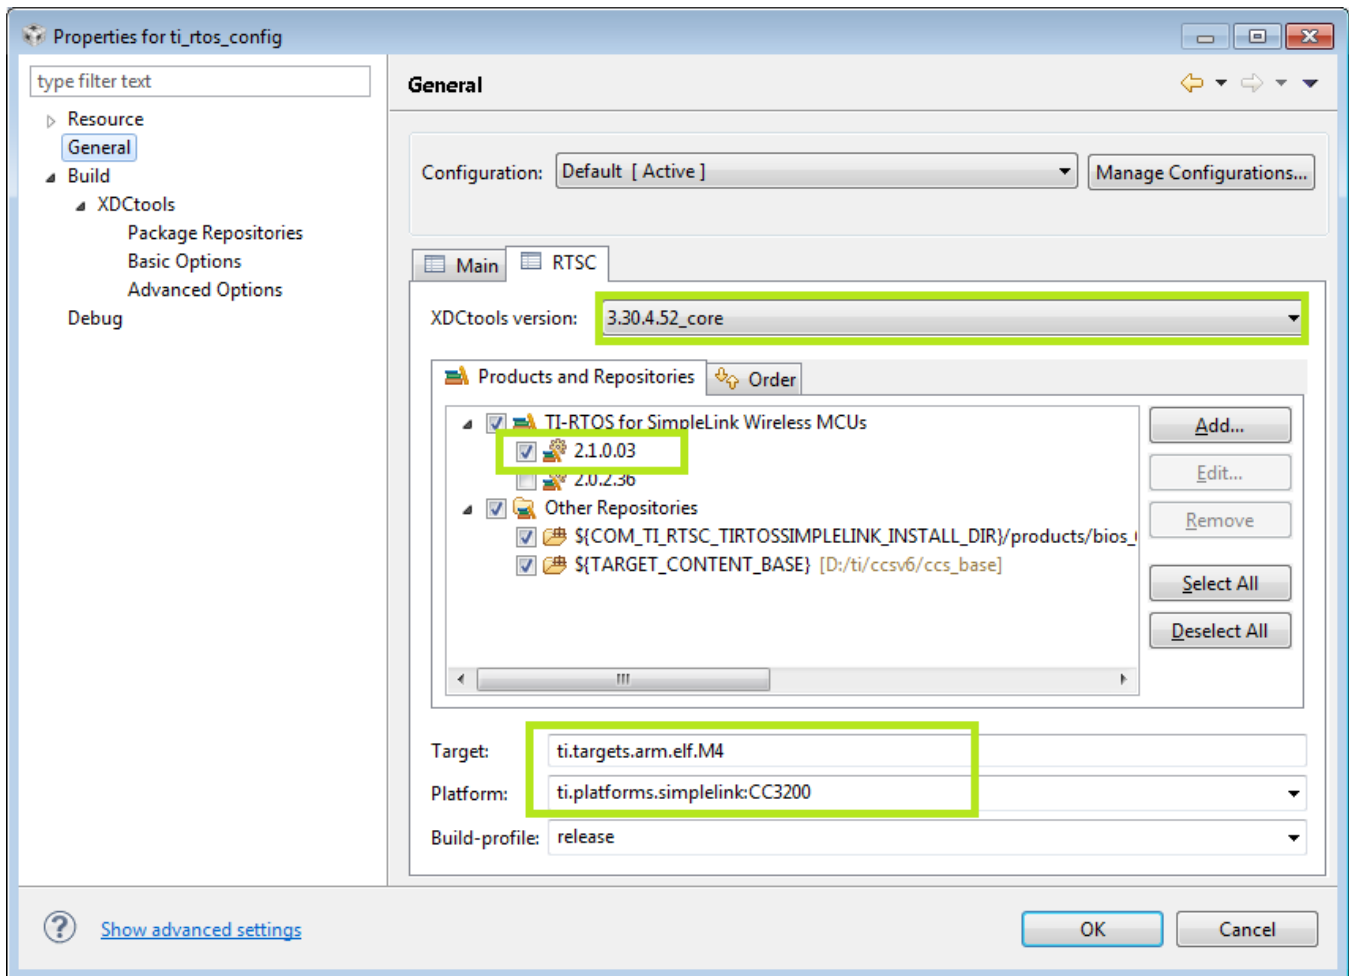

Figure 7. Properties for *ti_rtos_config*
4. Select the *ti_rtos_config* project in Project Explorer, and select *Project>Properties* from the menu. Under *General*, select the RTSC tab as shown in Figure 7. Select the latest versions of XDCtools and TI-RTOS for SimpleLink (not shown in Figure 7). Also verify the platform is selected as *ti.platforms.simplelink:CC3200*.